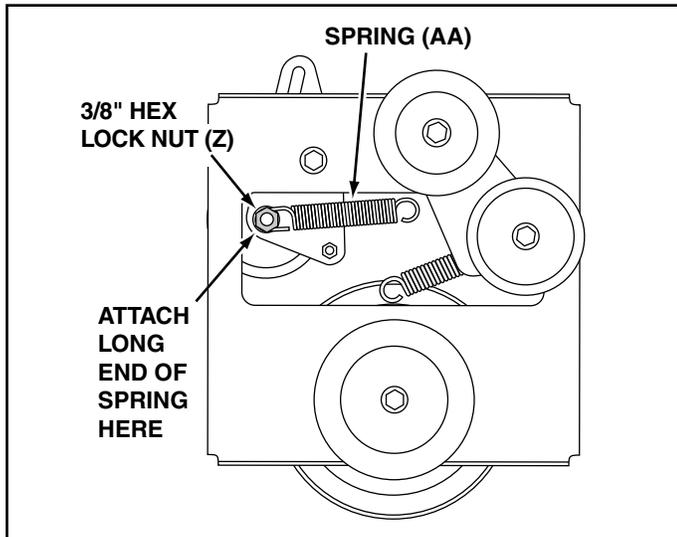

FIGURE 14
STEP 14: (SEE FIGURE 14)
- Hook the long end of the spring (AA) onto the end of the bolt that extends through the nut on the bottom of the upper idler arm. Install a 3/8" hex lock nut (Z) onto the bolt, leaving enough space for the spring to pivot.